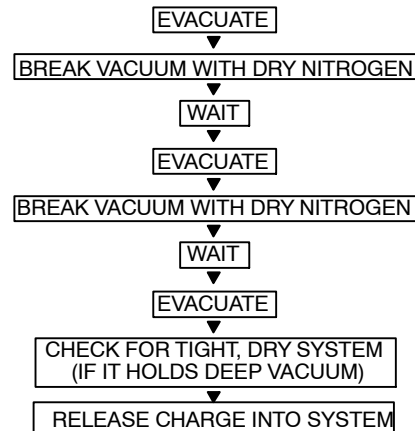

Fig. 14 — Triple Evacuation Method
The triple evacuation method should only be used when vacuum pump is only capable of pumping down to 28 in. of mercury vacuum and system does not contain any liquid water. Refer to Fig. 14 and proceed as follows:
5. Repeat this procedure as indicated in Fig. 14. System will then be free of any contaminants and water vapor.